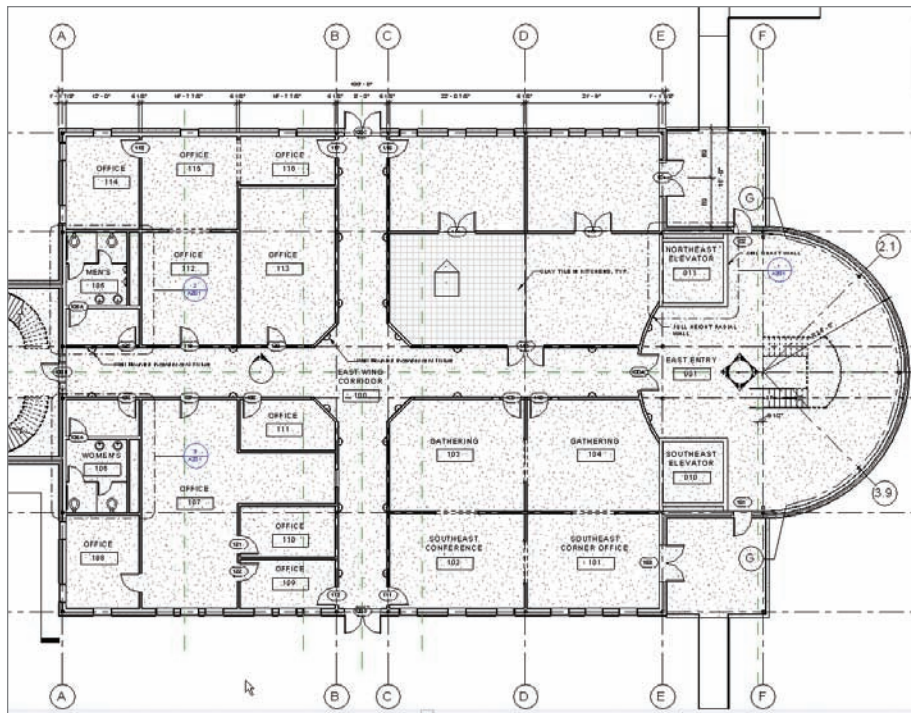

FIGURE 15.4 The first floor layout up to this point
2. Place a room in the adjacent area, as shown at the bottom center of Figure 15.4.
3. Call the room SOUTHEAST CONFERENCE (see Figure 15.4).
14. Just north of the SOUTHEAST CONFERENCE and SOUTHEAST CORNER OFFICE, place two rooms, each called GATHERING. Number them 103 and 104 (see Figure 15.4).